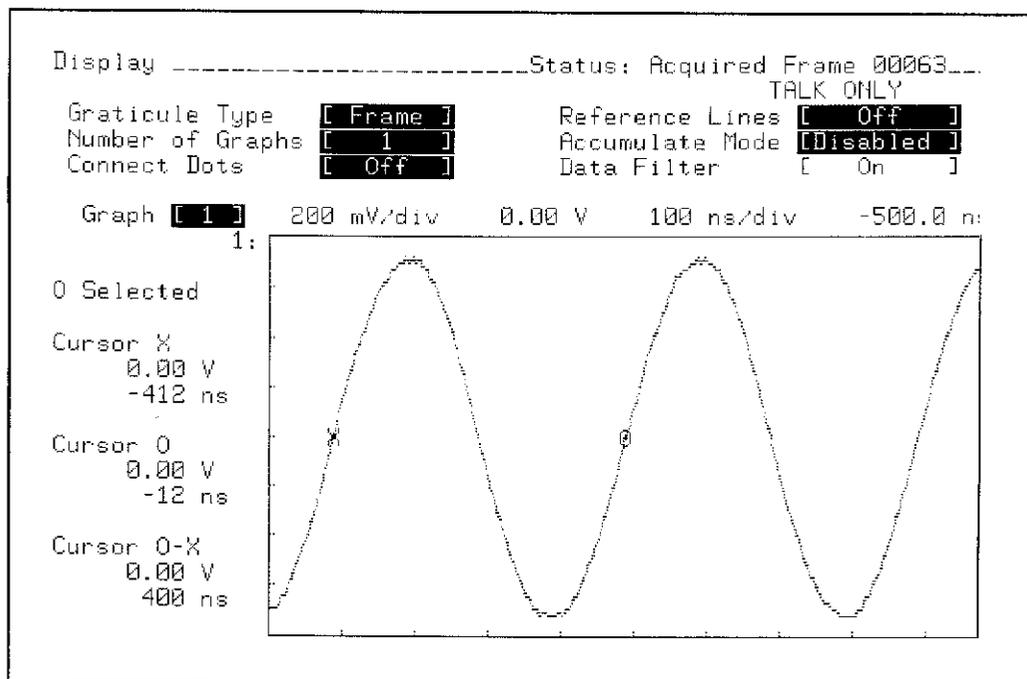

Figure 3-9. DISPLAY Waveform
5. Position the X cursor approximately halfway up the first rising slope, and position the O cursor on the second rising slope such that V_{o-x} is as small a value as possible. The display should appear similar to figure 3-9.